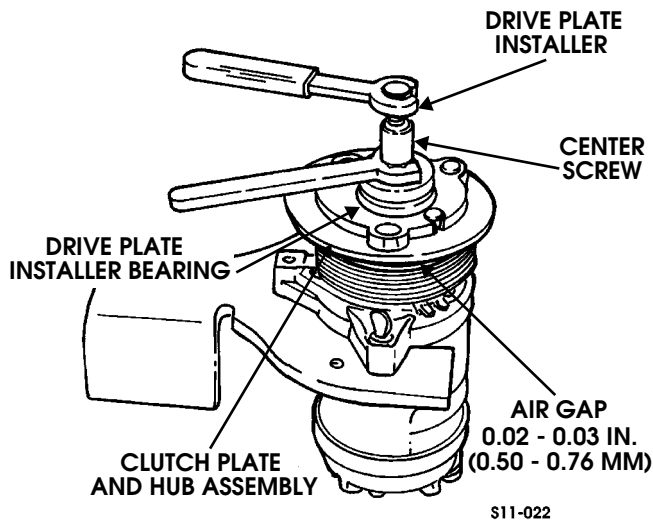

Figure 11-51: Drive Plate Installation
- Remove the forcing tip on clutch plate and hub assembly installer/remove center screw and reverse the body direction on the center screw (Figure 11-51).